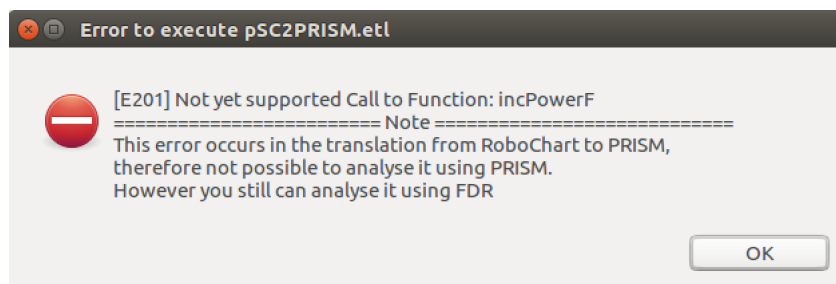

Figure 6.1: Translation Error Dialog
6. However, if an error occurs during the translation, a popup dialog with an error message (shown in Figure 6.1) will appear. This is mainly because of following reasons: